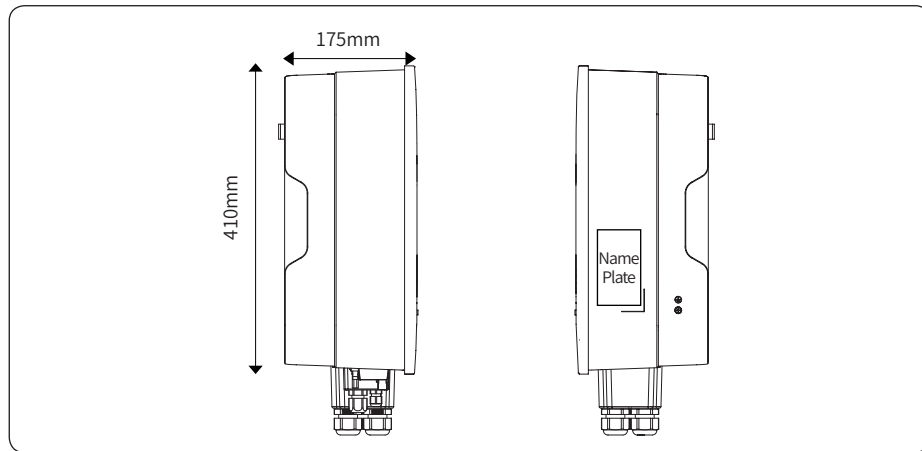

Figure 3- 4 Side view
3.2.3 Inverter bottom view, as shown in Figure 3- 5: